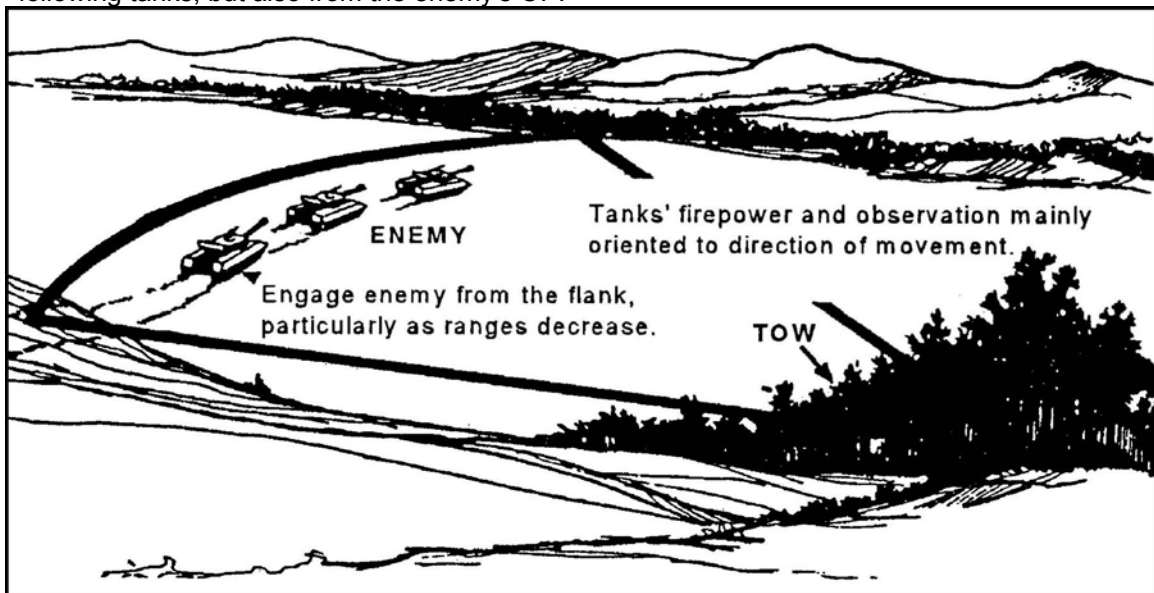

Figure 5. Provide for flank engagement.
4. Provide for flank engagement. Avoid TOW frontal fire against tanks, since the TOW crew is vulnerable, especially at shorter ranges. The firepower and observation of an advancing enemy tank are oriented to the front. Therefore, detecting and tracing a missile launched from its flank is difficult (Figure 5). However, a trailing enemy tank may see the launch signature or crew movement, and stalk or destroy the weapon from the rear. Thus, in addition to firing from the flank, the crew must site the weapon so that it is in defilade when viewed from the direction of the enemy. Also, the crew must put something between itself and the tanks—something the tanks are unlikely to shoot at. This could include a parapet, a wall, or natural cover. Flank concealment is necessary, but flank defilade, which provides cover from fire, is preferred. Concealment of flash is also essential, not only from the following tanks, but also from the enemy's OP.